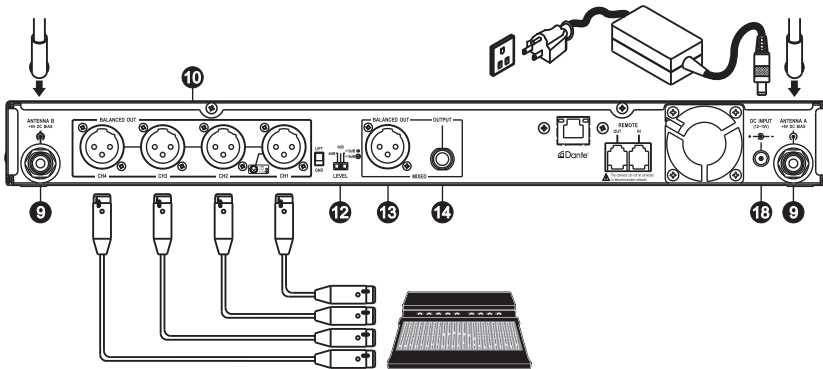

Fig. 2
II. Receiver Installation, Fig. 2
1. Connect an antenna to each antenna connector ⑨ on the rear panel.
2. Power Connection: Connect the power supply to the DC input jack ⑬ and plug the other end into an AC power source.
- (A) Each channel signal output can be connected to the mixer or amplifier's MIC IN jack by using a cable with balanced XLR connector, Fig. 2.